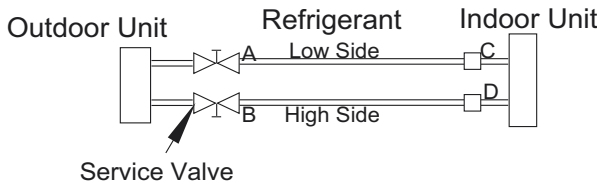

Fig. 22 – Service Valve
- 1 Completely tighten the flare nuts (A, B, C, D, E). Fully open all circuits service valves. Connect the manifold gage charge hose to the charge port of the low side Master service valve to evacuate all circuits at the same time (see Fig. 22).